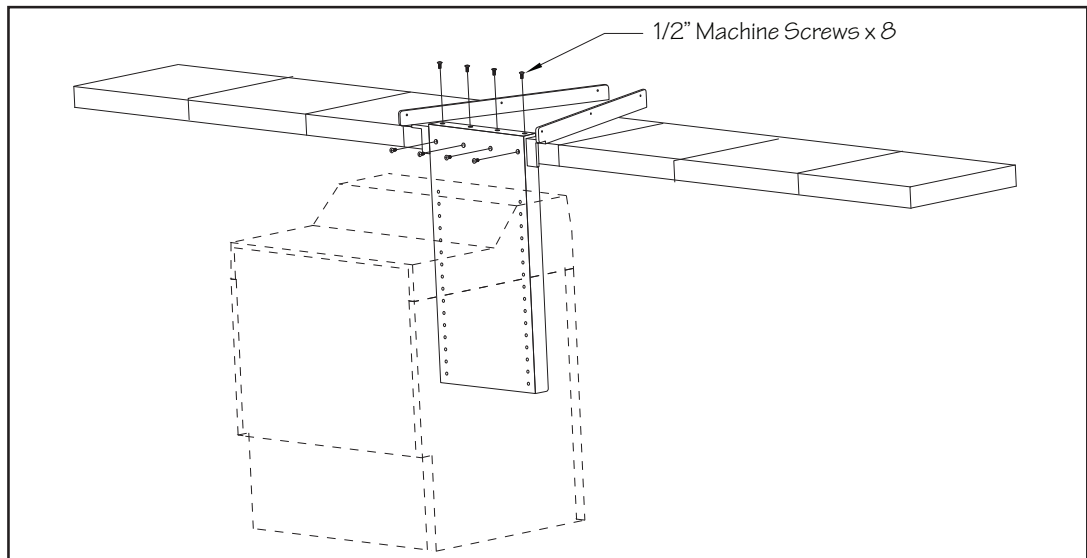

Fig. 9.2
9.3 This next step is best done with two people. Carefully lower the Fastlane into the pool. Align the holes in the bracket with the holes in the hose cover tray. Use the provided 1/2" screws to attach the top screws first and then the vertical screws next (total of 8 screws) (Fig 9.2).